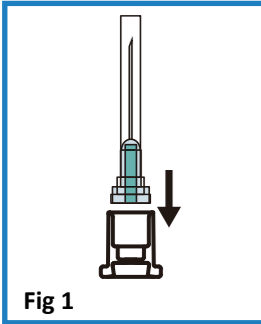
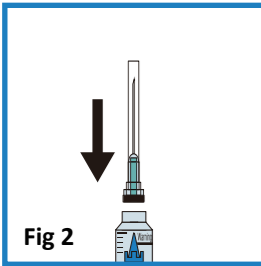
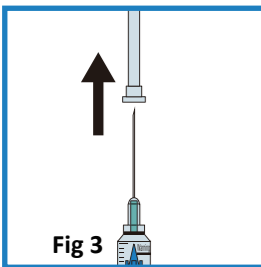

Fig 1
Fig 2
Fig 3
- Peel off the package and remove the end cap for needle hub from the needle (Fig1). Put the needle onto the syringe (Fig 2). The needle has to be put on in place. Take off the protecting cap (Fig 3). (If the needle has been placed on the syringe, peel off the package and take off the protecting cap.)